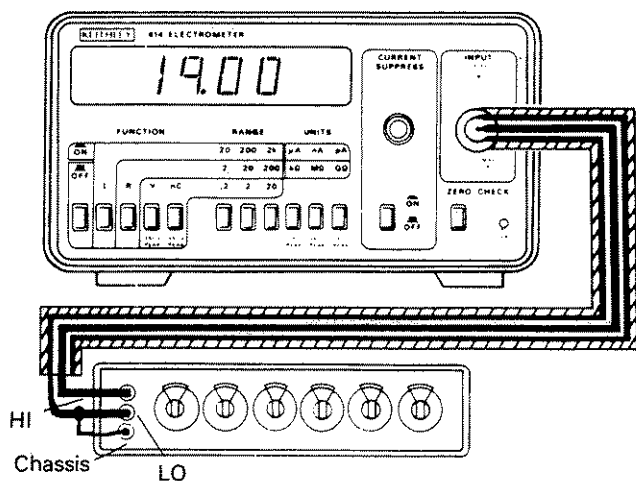

Figure 4-3. Resistance Verification
1. Select Resistance (R), 20k Ω range and depress ZERO CHECK.
2. Configure the Model 614 and the decade resistor (Item E) as shown in Figure 4-3.